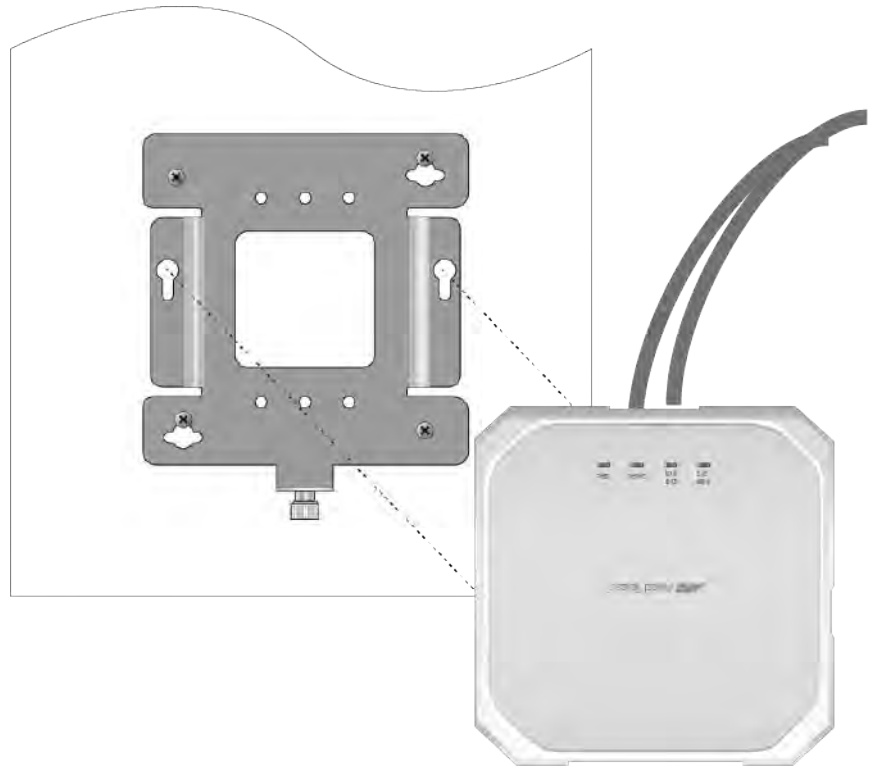

Figure 20. Installing the Access Point on the Mounting Bracket
1. Align the bottom of the access point over the bracket so that the two screws on the bottom of the device fit into the bracket keyholes. Refer to Figure 20. (These are the two access point chassis screws installed in “Pre-fitting the Mounting Bracket on the Access Point” on page 40.)